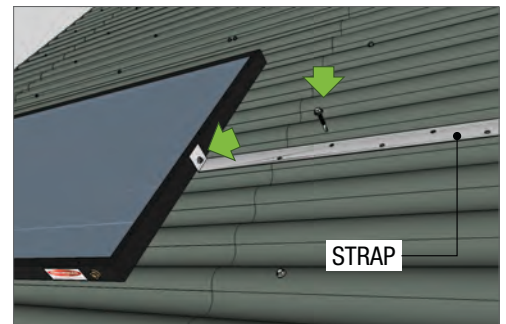
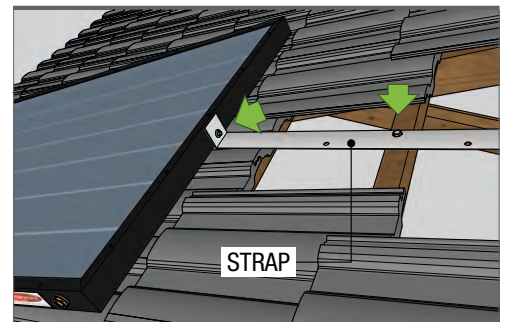

Fig 8
Fig 9
6. Fix the top collector strap to roof either directly through tin / metal sheet and into batten below (Fig 8) or by removing tiles and fastening directly to batten (Fig 9). Replace tiles back over the fastened strap.